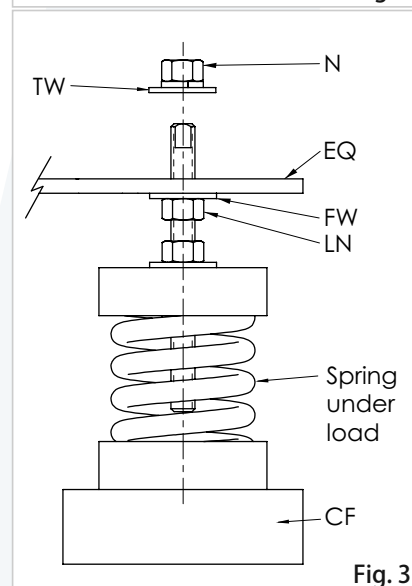

Fig. 3
**5)** Use a forklift, crane, or any other certified lifting machine to raise the equipment (EQ) to be installed. Slowly lower the equipment (EQ) on top of the isolators' flat washers (FW) and make sure that the equipment's mounting holes are perfectly aligned with the isolators' threaded rods (TR), as shown in figure 3.
**6)** When the equipment, which must be at the full operating weight, is placed onto the isolator's flat washer (FW), the isolator's spring (S) will be compressed according to the load vs. deflection chart for this model.
**7)** Level each isolator in sequence by turning the leveling nut (LN) a full clockwise turn at a time, as shown in figure 3.
**8)** After the leveling is done, run down the lock nut (N) and top washers (TW) to the equipment's base (EQ). Tighten the lock nut (N), thus securing the isolator to the supported equipment (EQ) and locking the leveling nut (LN) against turning, as shown in figure 3.